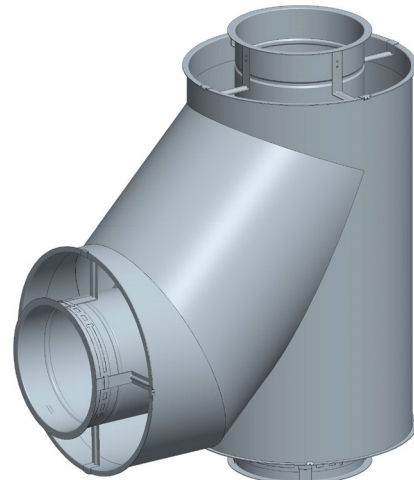

Figure 32 - Lateral Tee (BT)
The Lateral Tee (BT) is a 45° Tee with a 45° Elbow integrated in it. The installation details are the same as a 90° Tee. See Figure 32